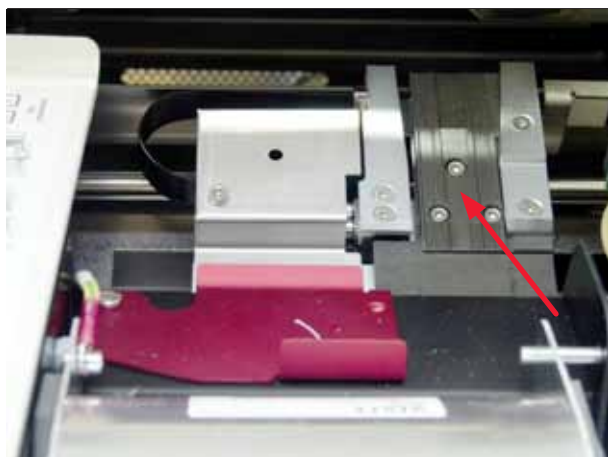

Fig. 49
- Transport station (→ "Fig. 49")
- Close the flap after cleaning and before using the instrument (→ "Fig. 49").